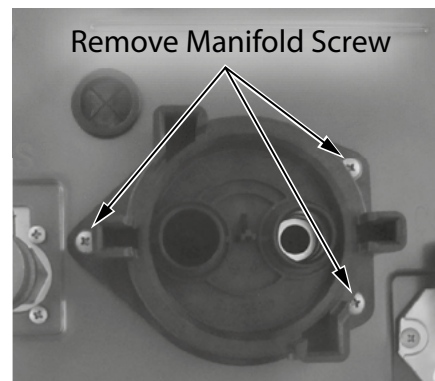

Figure 6 - Remove manifold screws
- 16 Locate the three (3) screws securing the cartridge manifold to the underside of the water heater cabinet as shown in Figure 6. Use a Phillips screwdriver to remove screws. Place screws aside in a safe place for reinstallation.